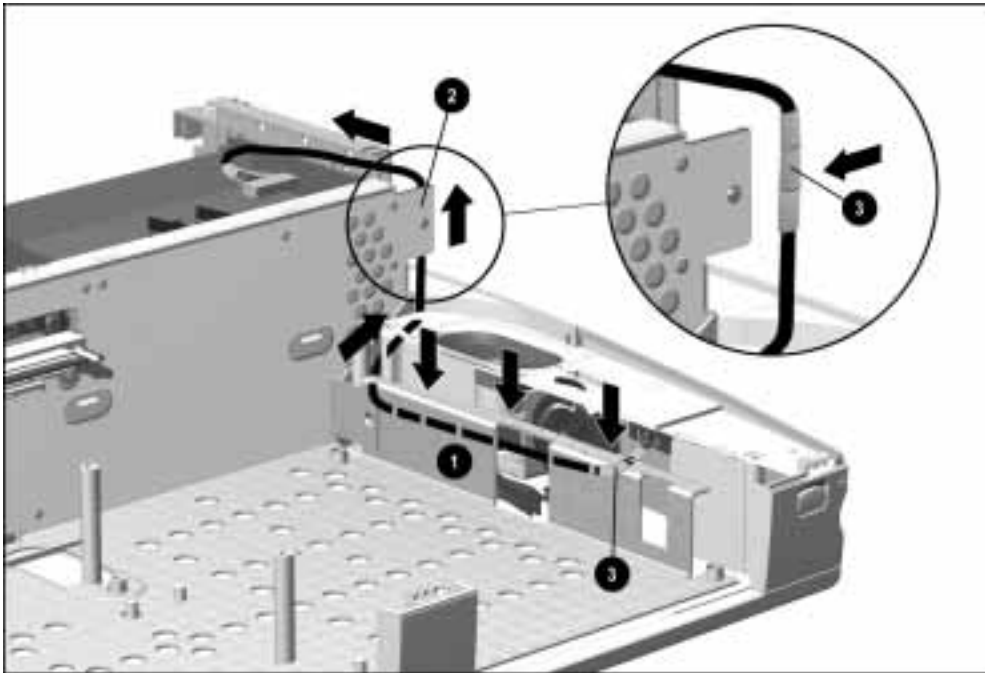

Figure 5-45. Proper Position of the Control Panel Cable
7. Route the control panel cable between the control panel and the base assemblies ❶ and around the backplane assembly ❷ (Figure 5-45). Make sure the protective wrapping on the control panel cable protects the cable from the base assembly and backplane assembly sheet metal ❸. The cable end with three pieces of protective wrapping should be connected to the backplane assembly.